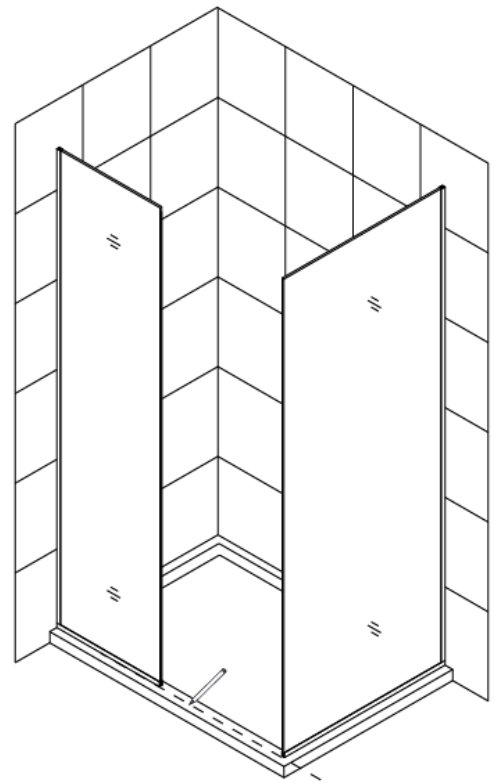

Fig. 7
NOTE: This model is fully reversible. The **installation is shown with the return panel to the right** in Fig. 7. For installation with the return panel to the left, simply reverse the orientation of your installation and begin on the opposite wall.
- Centering the panels on the threshold may be acceptable. However, for proper alignment it is recommended that you install the return panel first (*for example*, the panel on the right in Fig. 7) in order to align your second panel. You will need to mark a line on the threshold to determine where to install this second panel.
See Fig. 7 for details